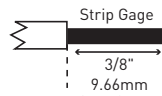

Figure 1: Strip Gauge
1. Make sure the insulation is stripped off the wires to expose their copper cores to the length indicated by the "Strip Gauge" shown in Figure 1 (approx. 3/8").